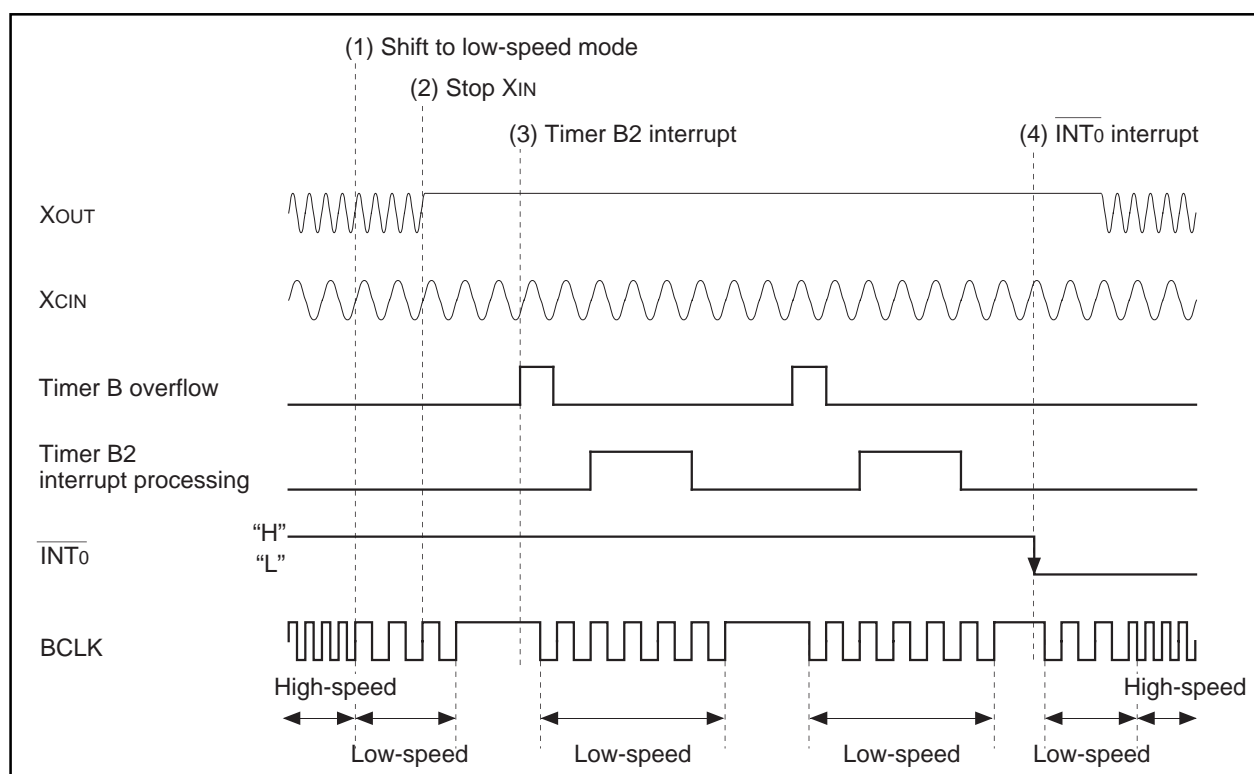
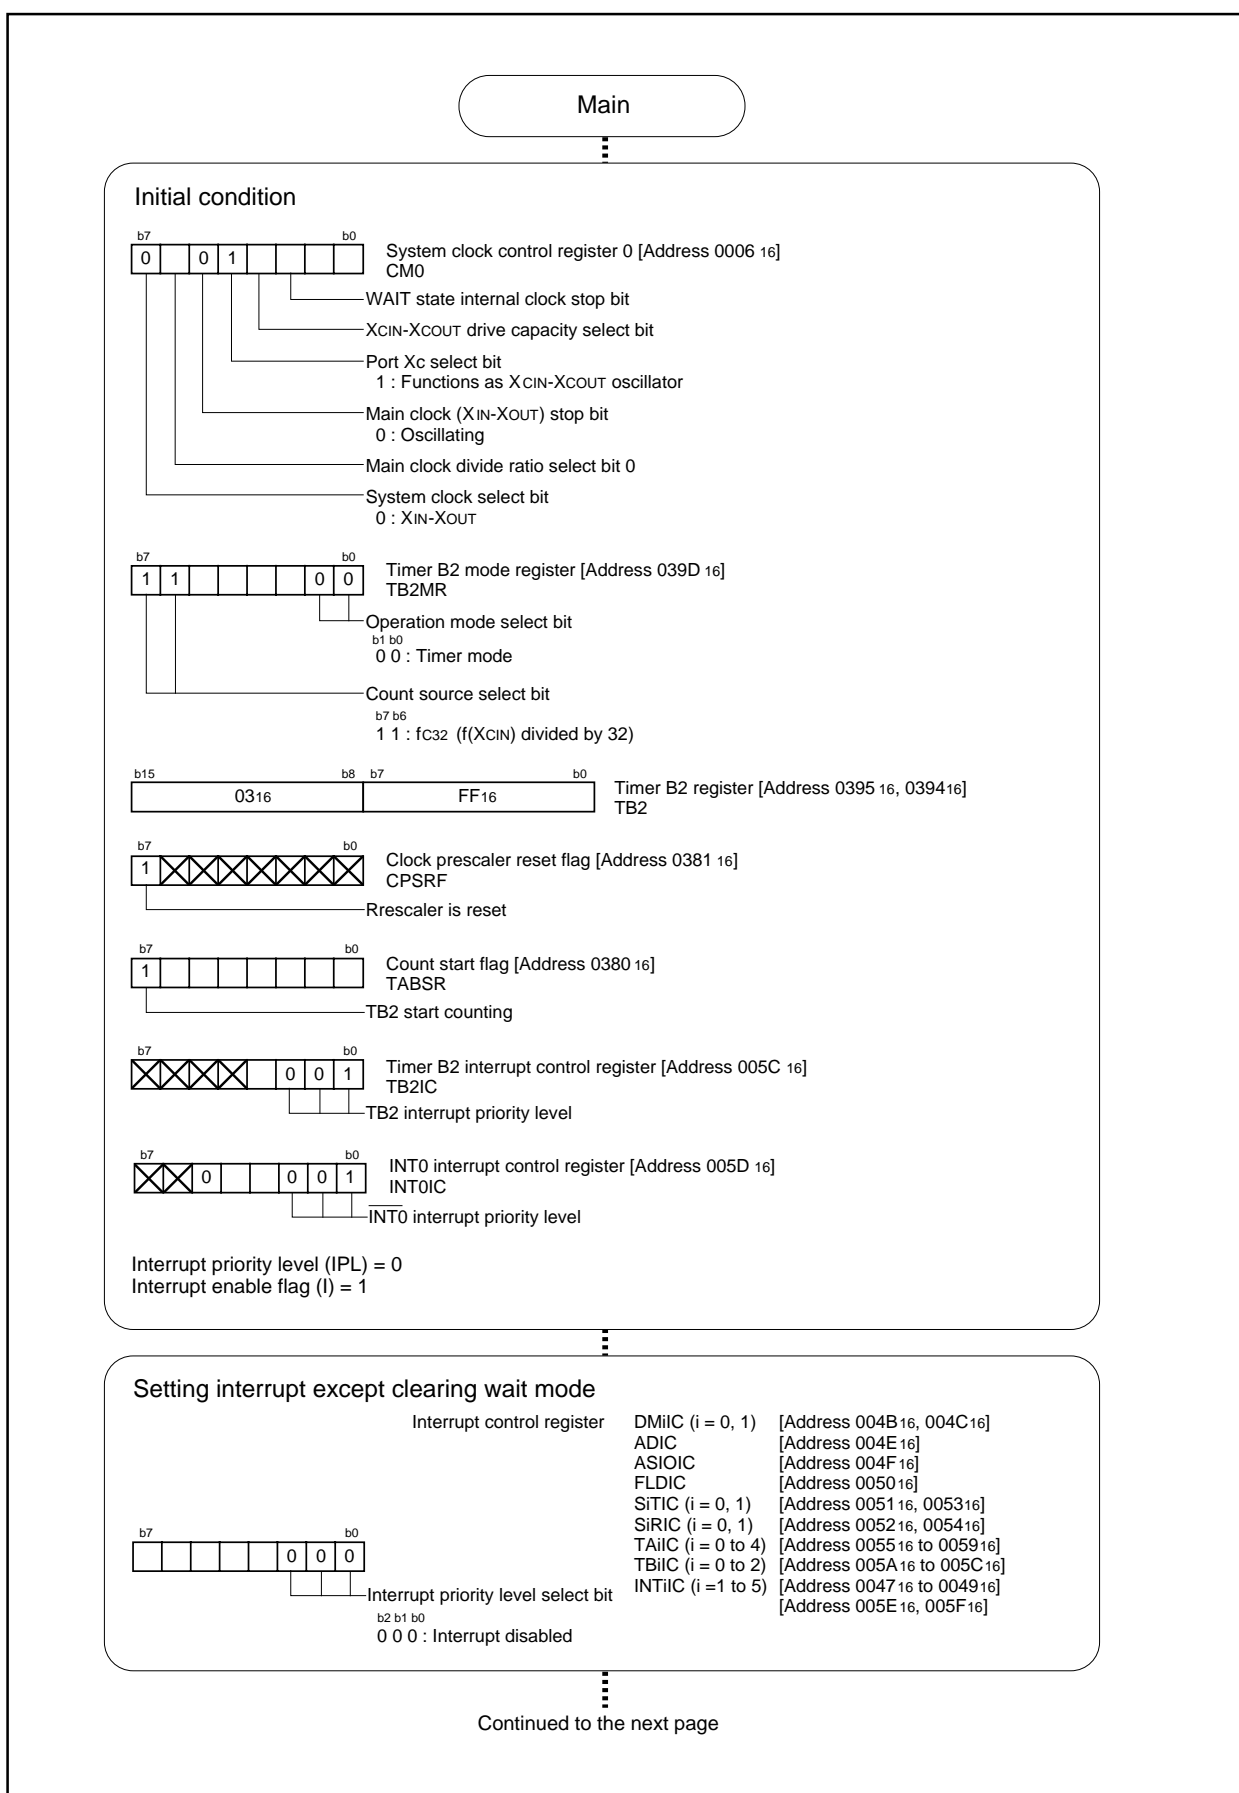

Figure 3.8.1. Operation timing of controlling power using wait mode
Figure 3.8.2. Set-up procedure of controlling power using wait mode (1)
**Overview** The following are steps for controlling power using wait mode. Figure 3.8.1 shows the operation timing, and Figures 3.8.2 to 3.8.4 show the set-up procedure.